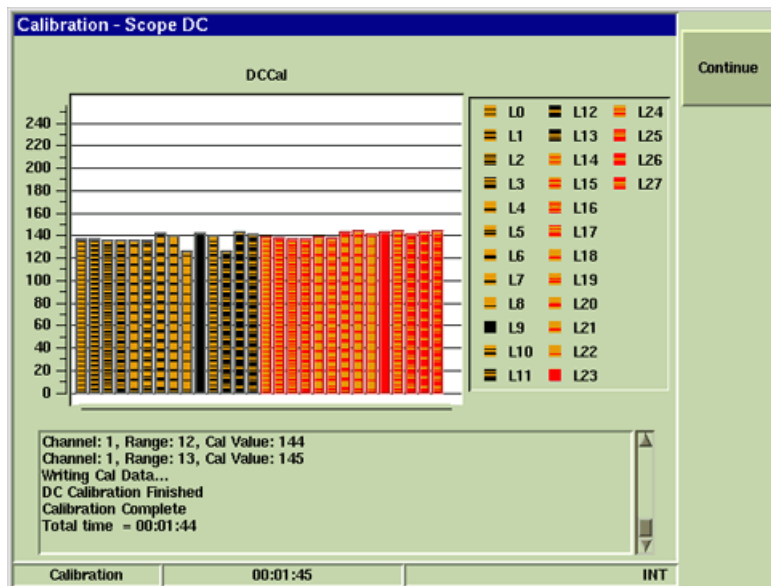

Fig. 4-37 Scope DC Calibration Complete
- When the Scope DC Calibration Procedure is complete, verify Calibration Complete is displayed in dialog box as shown in Fig. 4-37.